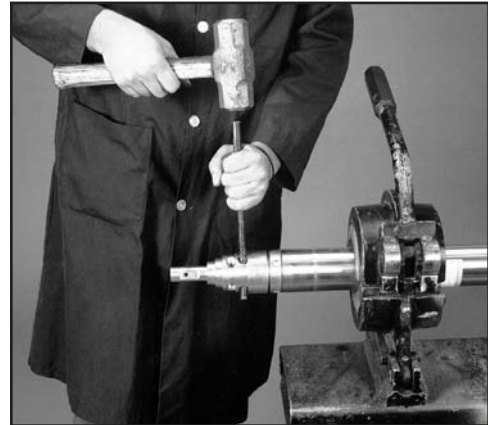

FIG. 20: REMOVING THE ROLL PINS
2. Remove the roll pins with a roll pin punch and a hammer (see Fig. 20).